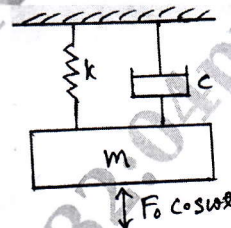

Fig.Q.5(b)
- b. A mass of 10 kg suspended from one end of helical spring, the other end is fixed, as shown in Fig.Q.5(b). The stiffness of the spring is 10 N/mm. The viscous damping causes the amplitude to decrease $1/10^{\text{th}}$ of initial value in four complete oscillations. If a periodic force of $(150 \cos 50 t)$ N is applied at the mass with vertical direction, determine the amplitude of forced vibration. What is its value at resonance? (10 Marks)